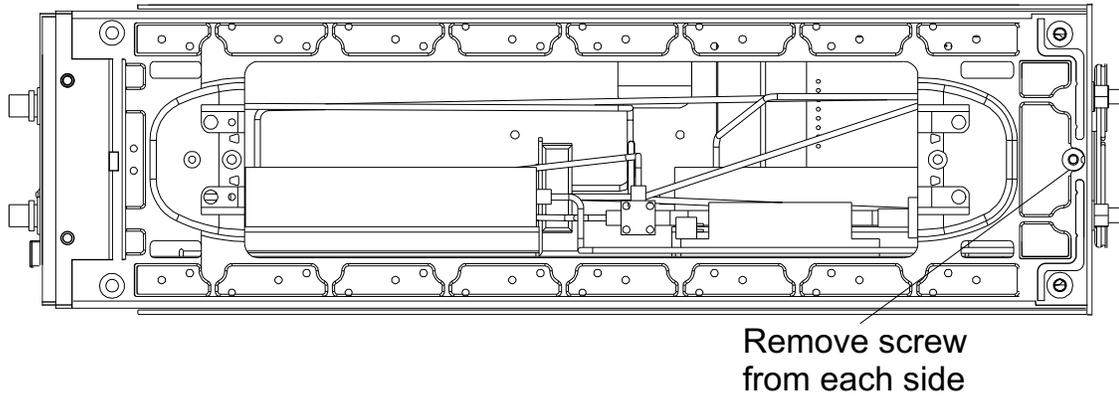

Figure 5-12. *A5 Step Attenuator Removal*
- Step 4.** With Test Set right-side up, remove the center screws from each side (Figure 5-12).